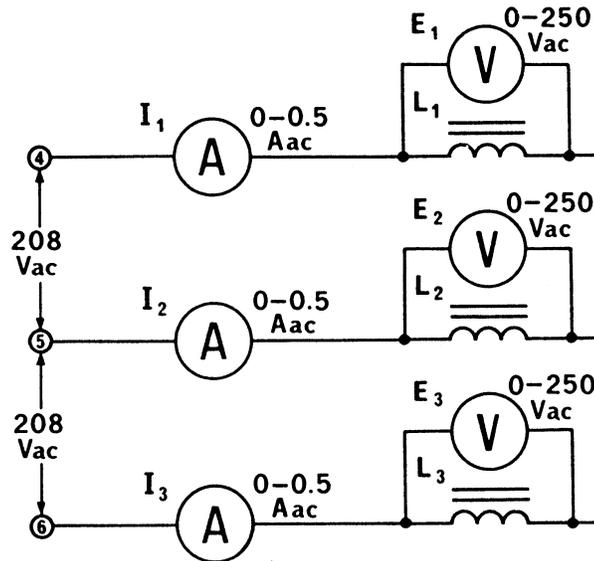

Figure 46-1.
- 1. a. Using your Inductive Load, Power Supply, AC Ammeter, and AC Voltmeter, connect the WYE circuit shown in Figure 46-1. Use a separate inductance section for each of the loads  $L_1$ ,  $L_2$  and  $L_3$ . Do not connect the neutral of the inductance module to the neutral of the power supply.